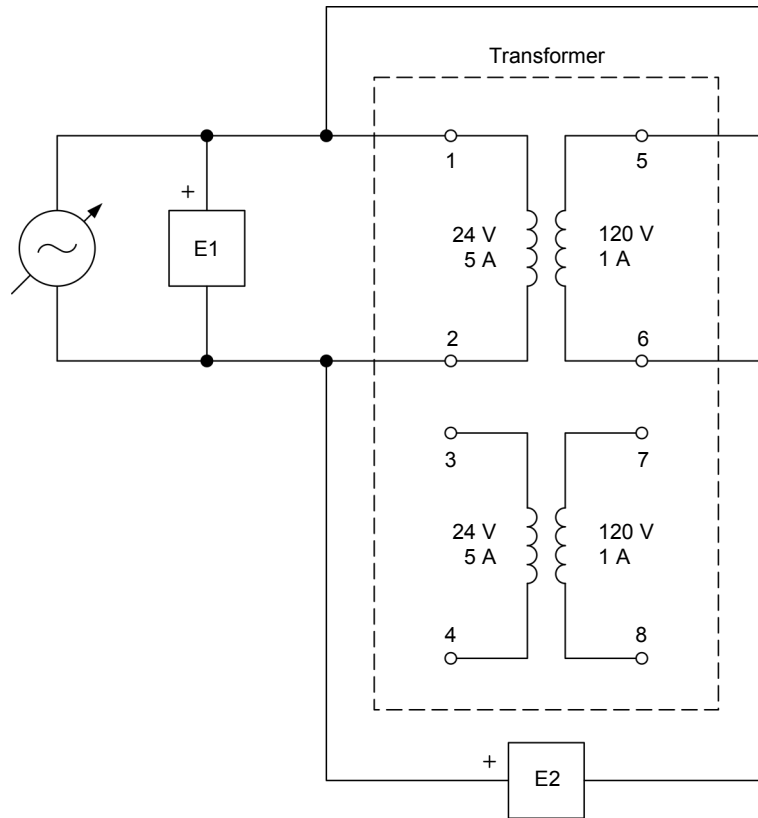

Figure 17. Circuit for determining transformer winding polarity using a voltmeter.
19. Connect the equipment as shown in Figure 17. In this circuit, one of the secondary windings (winding 5-6) of the power transformer is connected in series with the primary winding (winding 1-2).